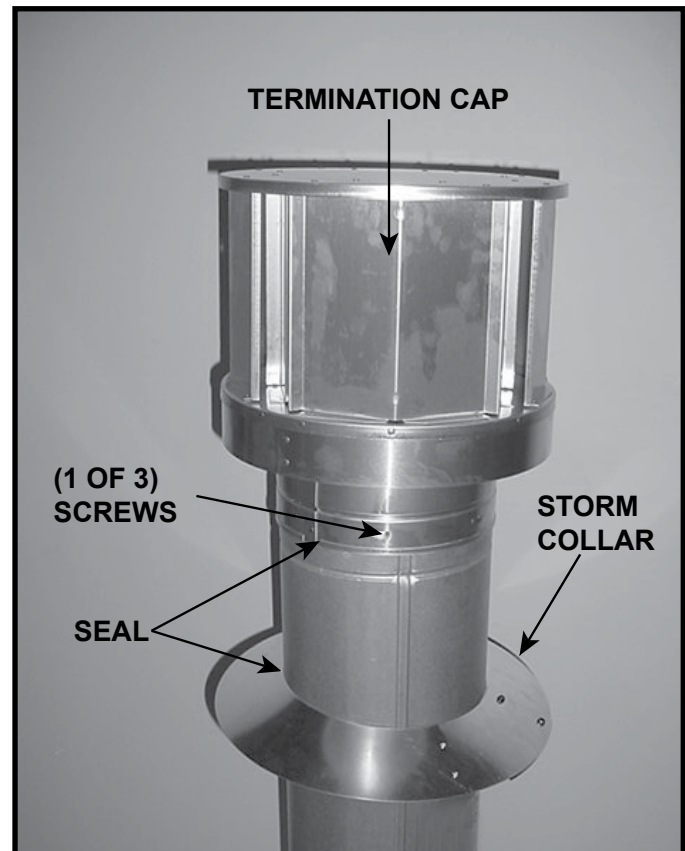

Figure 7.13
- Seal around the top of the storm collar. See Figure 7.13.
- Secure the cap by driving three self-tapping screws (supplied) through the pilot holes in the outer collar of the cap into the outer flue of the pipe. See Figure 7.13.